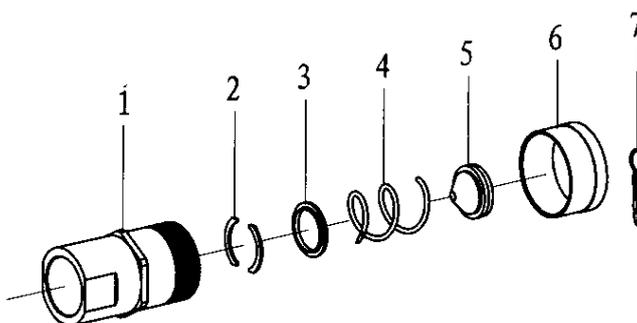

**Fig. 23**
**7.1.16 Quick exchange adaptor (2 1/8-12UN)(Fig.23, Table.18)**